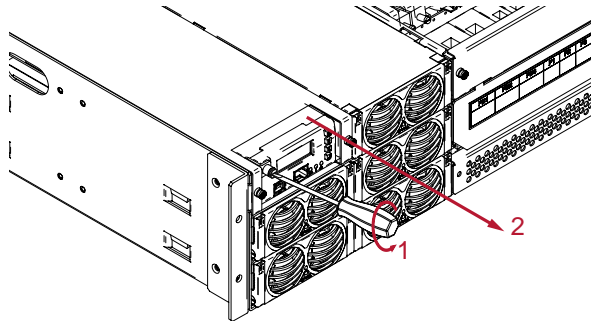

Figure 7-1 Unlocking and Removing the Controller
1. Loosen the front screw in the top left corner of the controller front panel using a flat screwdriver, Figure 7-1 (1).
2. Pull the controller out of the shelf, Figure 7-1 (2).